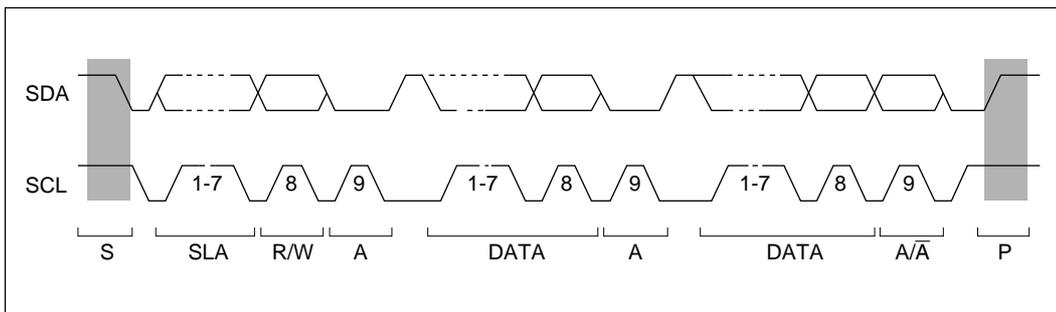

Figure 10-3-4 I²C Bus Timing
The I²C bus interface has three data formats: two addressing formats, shown as (a) and (b) in figure 10-3-3 (1), and a non-addressing format, shown as (c) in figure 10-3-3 (2). The first byte following a start condition always consists of 8 bits. Figure 10-3-4 shows the I²C bus timing.